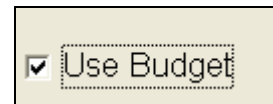

Figure 16.4.26C
2. Click on the **Use Budget** box if you want to use a budget (Figure 16.4.26C).